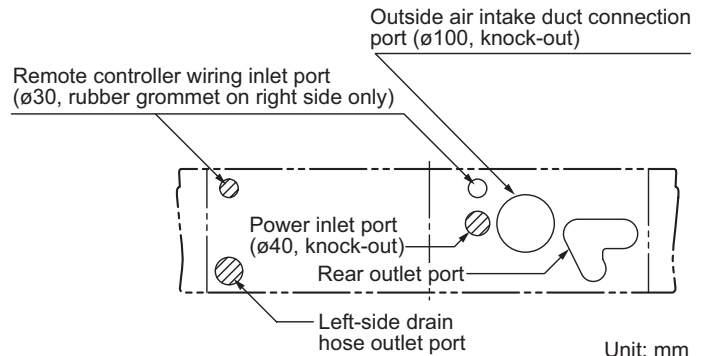
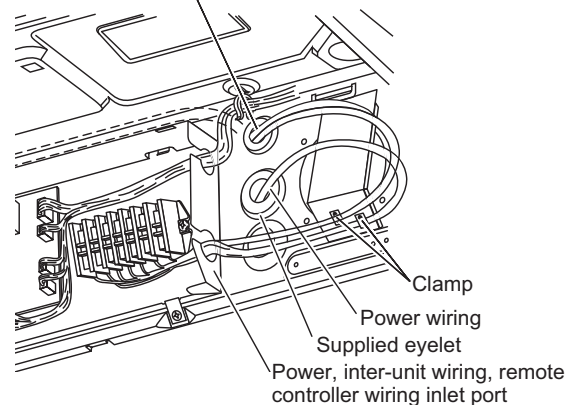

Fig. 2-69
Fig. 2-74
There is a duct connection port (knock-out hole) at the right-rear of the top panel of the indoor unit for drawing in fresh air. If it is necessary to draw in fresh air, remove the cover by opening the hole and connecting the duct to the indoor unit through the connection port. (Fig. 2-69)
- \* When routing the tubing out through the top or right sides, knock out the appropriate parts in the top panel and cut notches in the side panel (Fig. 2-69).
The power inlet ports are located at the rear and top. The remote controller wiring inlet ports are located at the rear and top (for use with the wired remote controller). For details, refer to Fig. 2-69. For the method used to insert the wiring, refer to Fig. 2-74.
(Refer to Fig. 2-74)